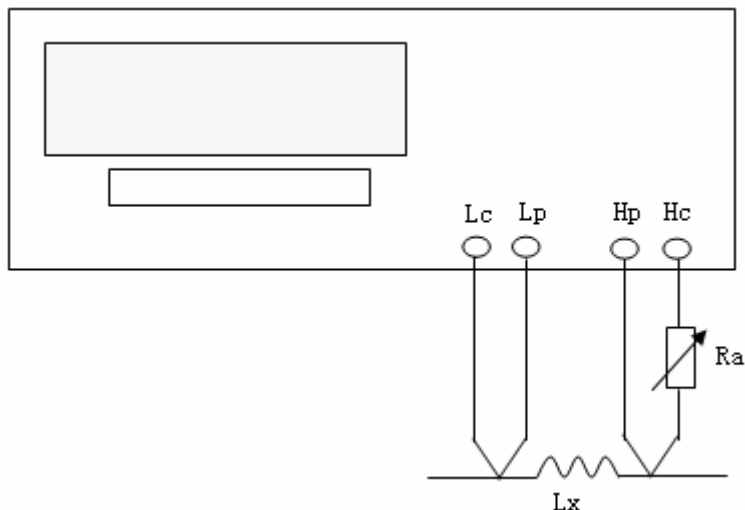

Figure4-5 Signal Source Essential Resistance Adjustment Diagram
2. User can adopt the method of Figure4-5 to adjust the essential resistance of signal source to meet the demand of test current, thus to achieve the consistency of different test results. In the figure above, the adjustable potentiometer is Ra, to make the current become a demanded value, the Ra can be replaced as a fixed resistance, this method can help adjust the consistency of different tests.